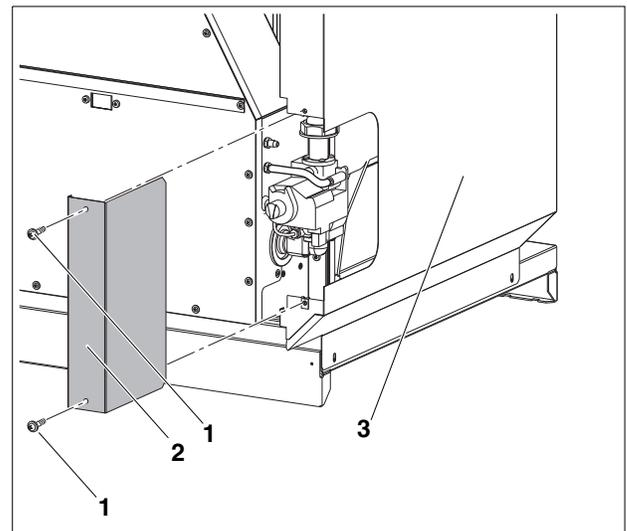

Fig. 2 Removal of side cover plate
4. Remove side cover plate screws (Fig. 2, **Item. 1**) from the right side jacket panel (Fig. 2, **Item. 3**) and then remove the side cover plate (Fig. 2, **Item. 2**).